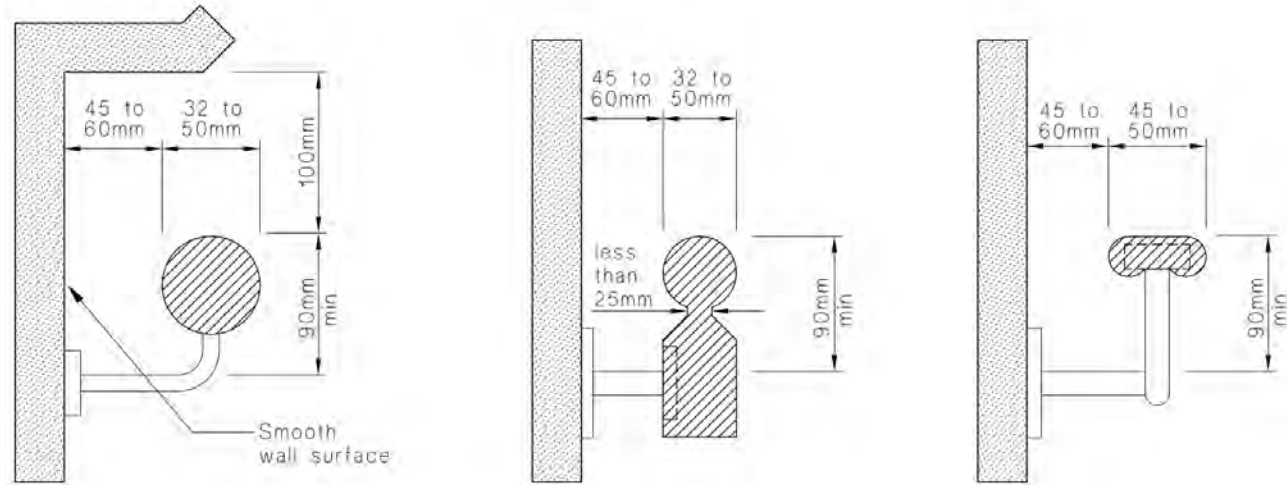

Figure 26: Handrail Profiles and Clearances
- See fig. 26 (b) for wall clearances.